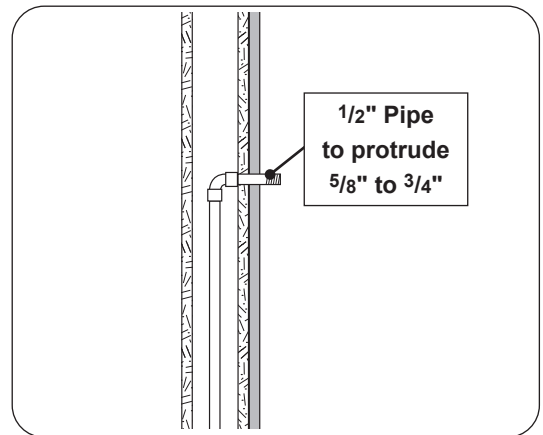

Fig. 2-1 Route gas supply
1. Ensure the gas supply is properly routed to the install location (see Fig. 2-1). Your individual installation may vary. **Follow all information on the previous page, observe the National Fuel Gas Code and all local codes, and leak test all gas connections.**